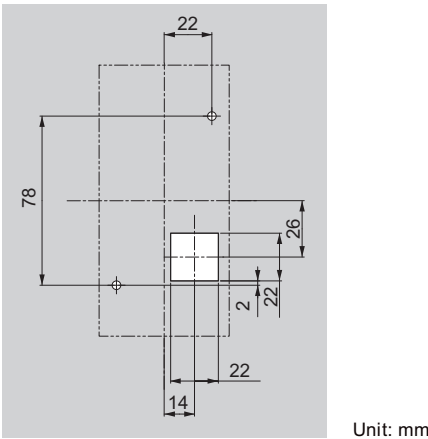

Figure 2.12 Panel Cut-Out Dimensions (External/Face-Mount Installation)
- 1. Cut an opening in the enclosure panel for the digital operator as shown in Figure 2.12.